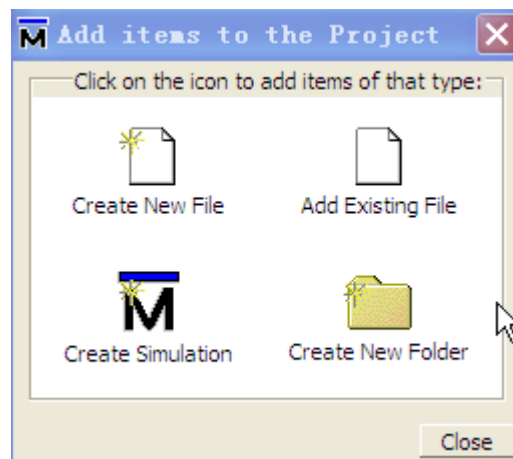
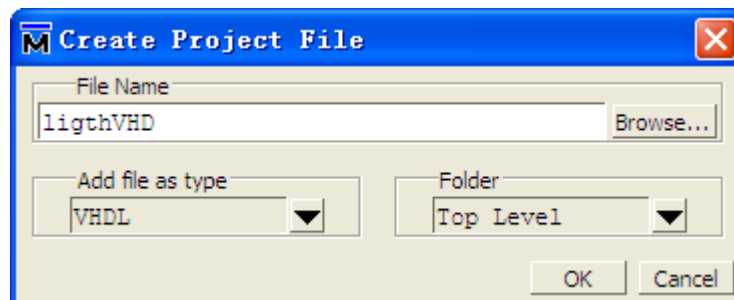

Figure 33. Add items to a Project
Figure 35.Add new files to Project
4. Once you click **OK** to accept the new project settings, a blank Project window and the “**Add items to the Project**” window will appear (Figure 33), in which you can create a new design file, add an existing file, create a simulation configuration or add a folder for organization purposes.
Either Clicking on the **Create New File** icon of Figure 33 or selecting **File >New > Project** from the menu bar can create a new file, here we choose the first method: the **Create Project File** window shown in Figure 35 will appear. Specify the file type, specify a folder to which. Here we input **lighVHD** as File Name, choose **VHDL** for Add file as type and Top Level for Folder (Folder means the path to which the file will be added and the Top Level means the project path we just set), then click OK. Click **Close** to close the **Add items to the Project** window.